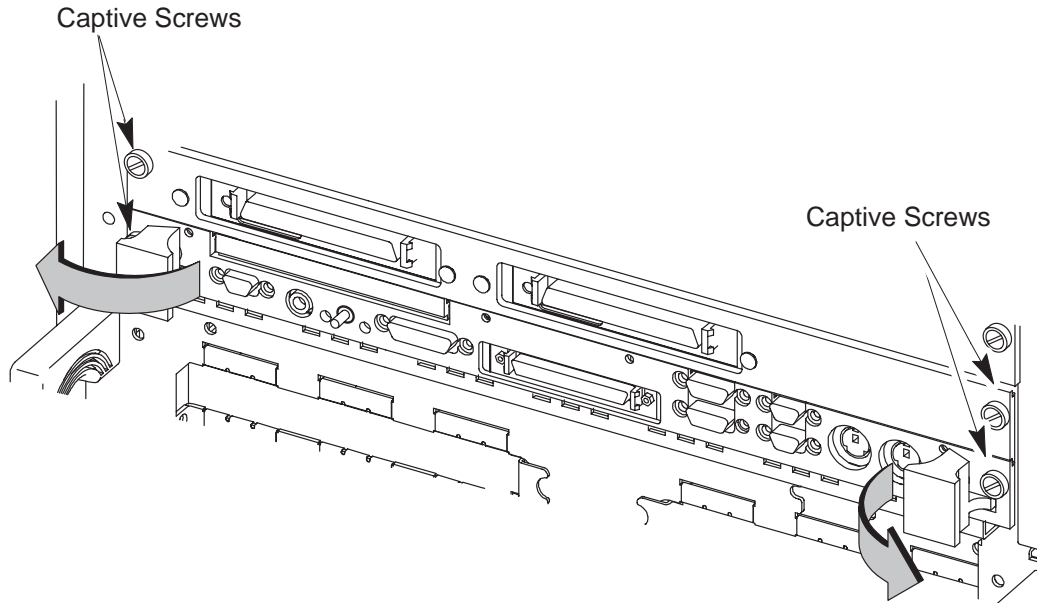

Figure 2-1. Removing the Single Board Computer
- e. Loosen the SBC's two captive screws with a small flat blade screwdriver. Depending on your configuration, you could have four captive screws – two on the SBC, and two on the expansion slot. If you have these four captive screws, you will need to remove all four. See Figure 2-1.
- f. Push the ejector handles to the outside of the board and remove the SBC from the card cage, as shown in Figure 2-1.